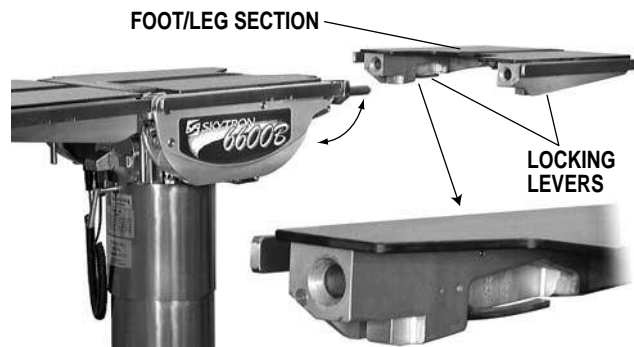

Figure 3-17. Leg Section Removal
a. The Leg Section and the Back Section on the 6600 series tables are both removable. See figure 3-17 (Leg Section shown).